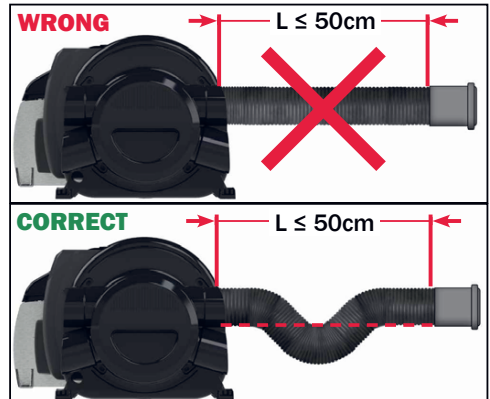

Figure 11
- If the duct length is less than 50cm, form a U-shaped trap near the air outlet (Figure 11) to prevent unwanted interior heating when the system is only in hot water mode